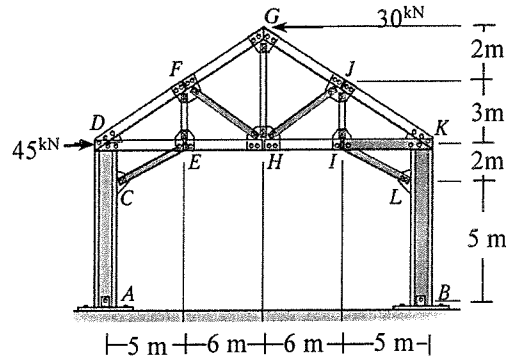

Fig.6
6. Analyze the mill bent shown in Fig.6 by Portal Method to determine the reactions at support A and F. Also, determine the force in members DF and IL. [05]